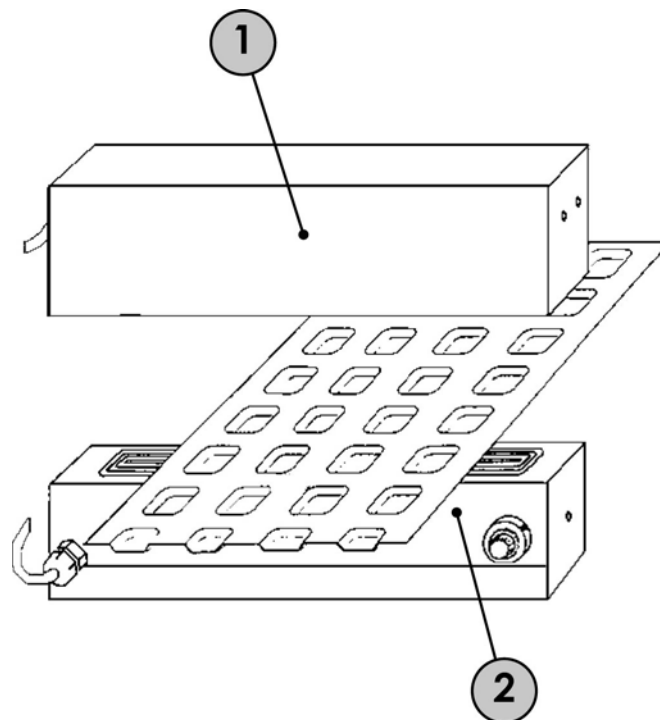

Fig. 1
- illuminator (Fig. 1 – Ref. 1)
- receiver (Fig. 1 – Ref. 2)